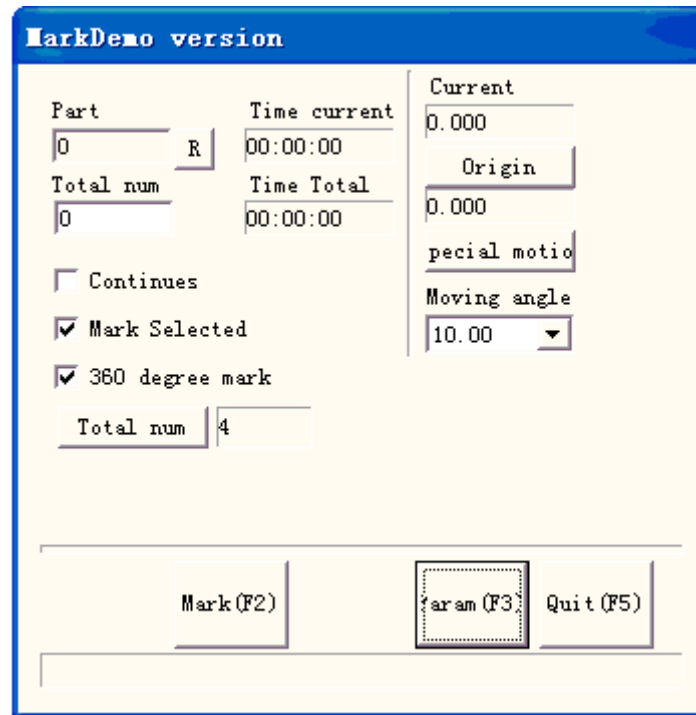

Figure 8-8 Rotary marking2 interface
Except the new option **360 degree mark**, the others parameters in **Rotary marking2** is the same as those in **Rotary marking**, as is shown in Figure 8-8.
Step 2: Click menuitem **Rotary marking2** and the dialog box shown in Figure 8-8 popup.